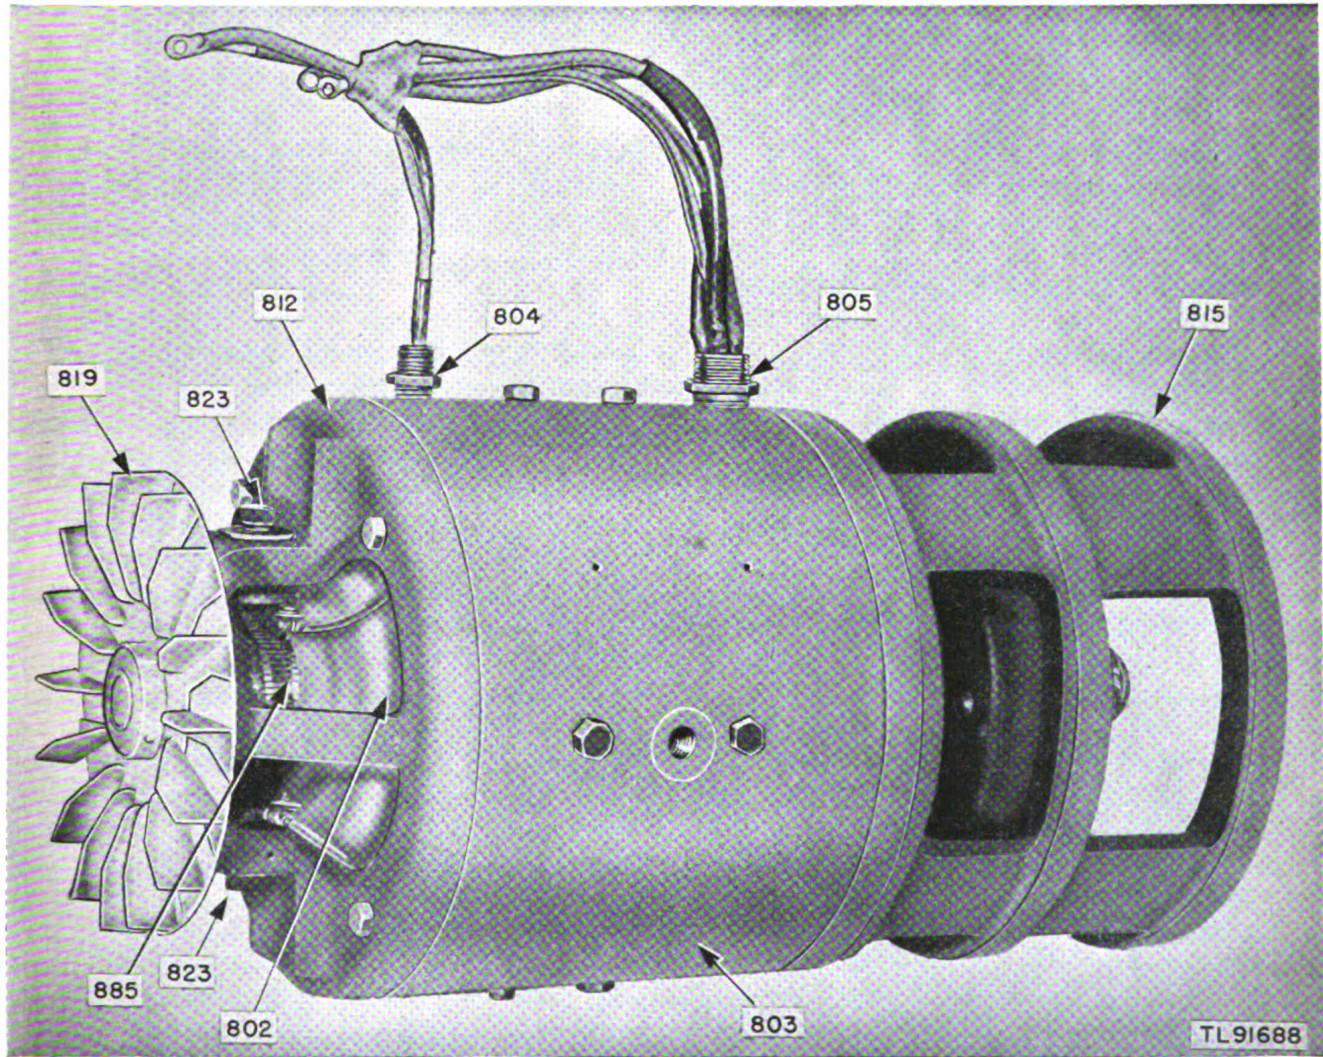

Figure 52. Generator GN-39-G, high-voltage end cover removed.
- (5) Hand brush the six generator leads, taking care not to varnish connecting lugs. (See fig. 52.)
f. REASSEMBLY. (1) Remove all masking tape.
F, and GN-39-G are very much alike in external appearance (figs. 52 and 53) and very similar in their characteristics and functions. All are self-excited, dripproof, semi-inclosed units. All have two armature windings; one normally rated at 1,000 volts at 0.350 amperes, the other at 14.6 volts at 25 amperes. Two interpoles with high- and low-voltage windings are provided to insure good commutation.